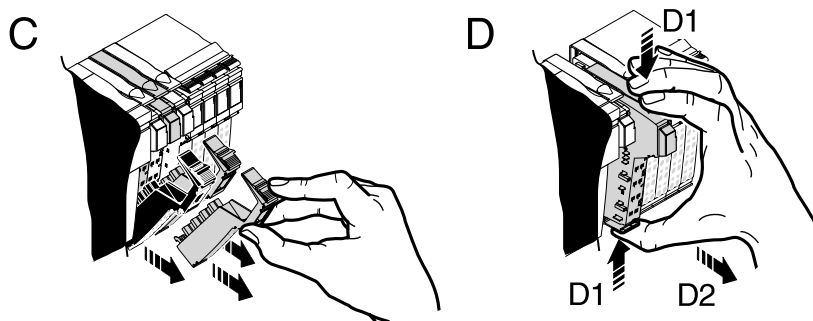

Fig. 10-19: Removing the terminal
4. Remove the adjacent connectors of the neighboring terminals (C in figure 10-19).
5. Push the release mechanism (D1 in figure 10-19).
6. Remove the terminal perpendicularly to the top-hat rail (D2 in figure 10-19).